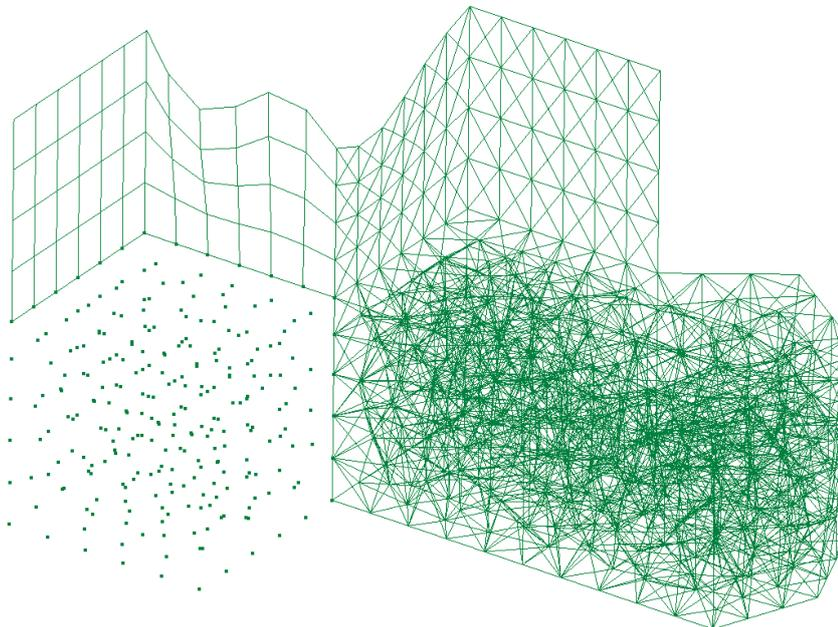
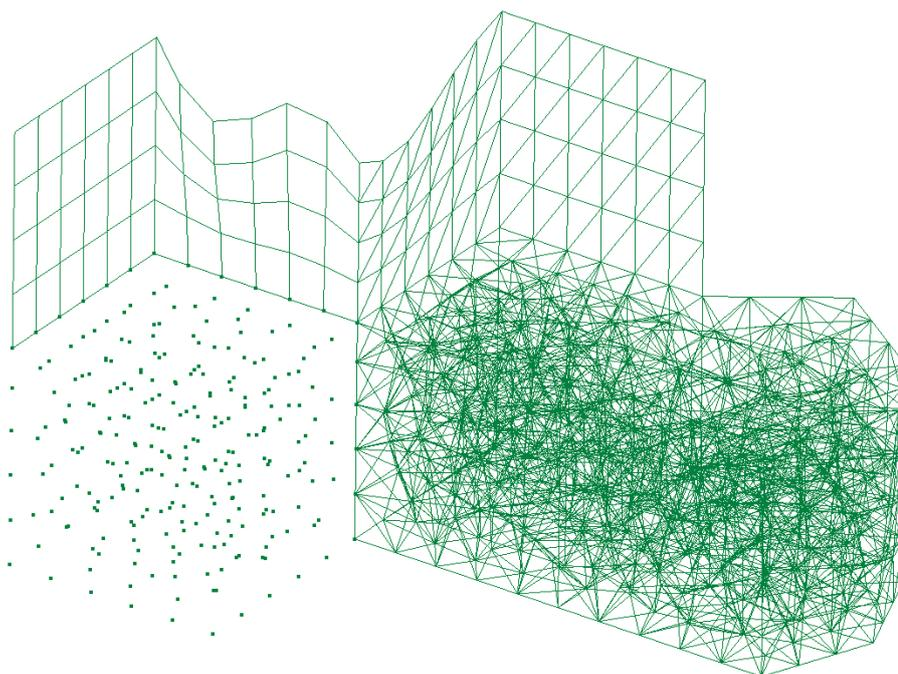

Figure 7. Structured mesh of quadrilateral and triangular elements on surfaces.
Figure 8. Structured mesh of quadrilateral and triangular elements on surfaces, with the option Symmetrical structured triangles not set.
- 11 . Another window appears in which to enter the maximum element size. Leave the default value unaltered and click Ok. The result is the mesh shown in Figure 8.
- 12 . As seen in Figures 7 and 8, GID can obtain surface structured meshes made of quadrilaterals or triangles. There are two kinds of structured mesh that use triangles: the one shown in Figure 7 is obtained when the **Utilities->Preferences->Meshing->Symmetrical structured->triangles** option is set. If this option is not set, the mesh presented in Figure 8 is produced (with fewer nodes than if using the previous option).